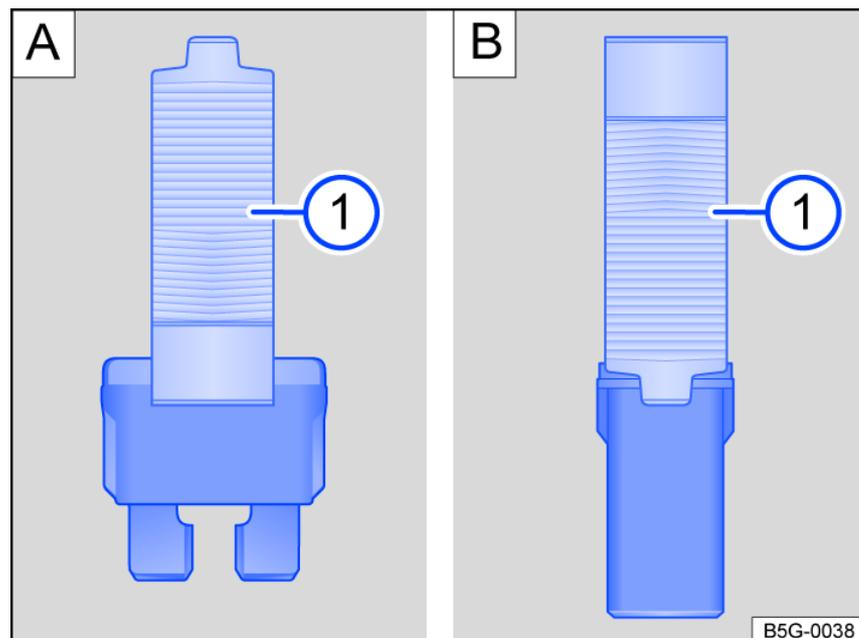

Fig. 180 Removing or installing a fuse with the plastic pliers: **A**: flat connector fuse, **B**: block fuse.
- Remove the plastic pliers from the fuse box cover, if necessary fig. 180 .
- Depending on the fuse version, push the fitting clamp on the plastic pliers on the side of the fuse fig. 180   or fig. 180  .